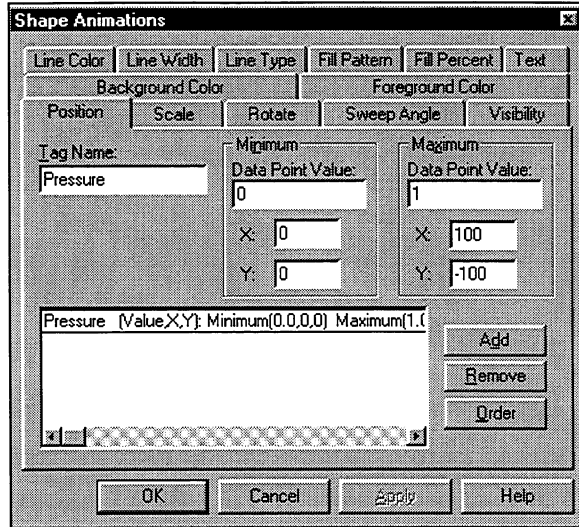

Figure 4-30. Configuring a Position Animation
13. Leave the minimum X and Y values at 0, and set the maximum X value to 100 and the maximum Y value to -100. This will move the pie right 100 pixels (X) and up 100 pixels (Y) based on the value of the Pressure tag.
14. Click Add to add the animation to the list box, as shown in Figure 4-30.